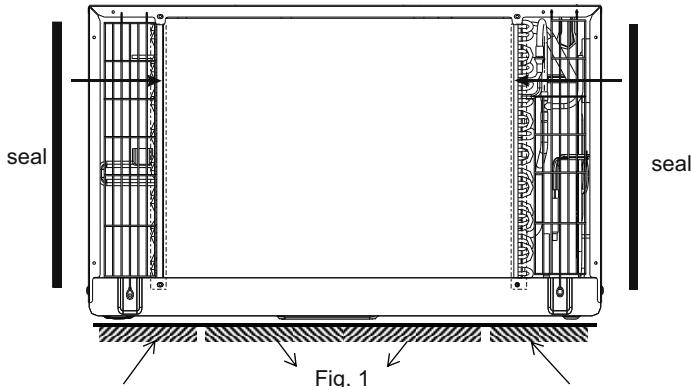

Fig. 1
1. Attach the 2 seals (1" x 3/8" x 14") as shown in Fig. 1.